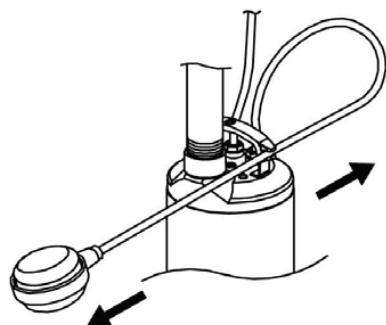

FIG.3
-  The float is adjusted by increasing or diminishing the free length of the cable. (Fig. 3)